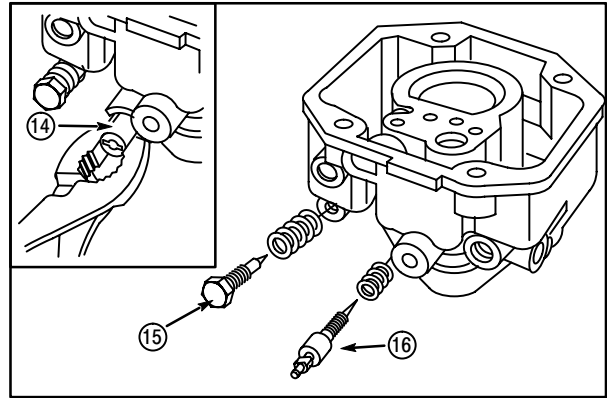

Fig. 101
If equipped, remove adjustment limiter cap (14) with a pliers (inset) before removing idle mixture screw, **Fig. 101**.
8. Remove idle mixture screw (16) and spring.
9. Remove fuel bowl drain screw (15) and spring.